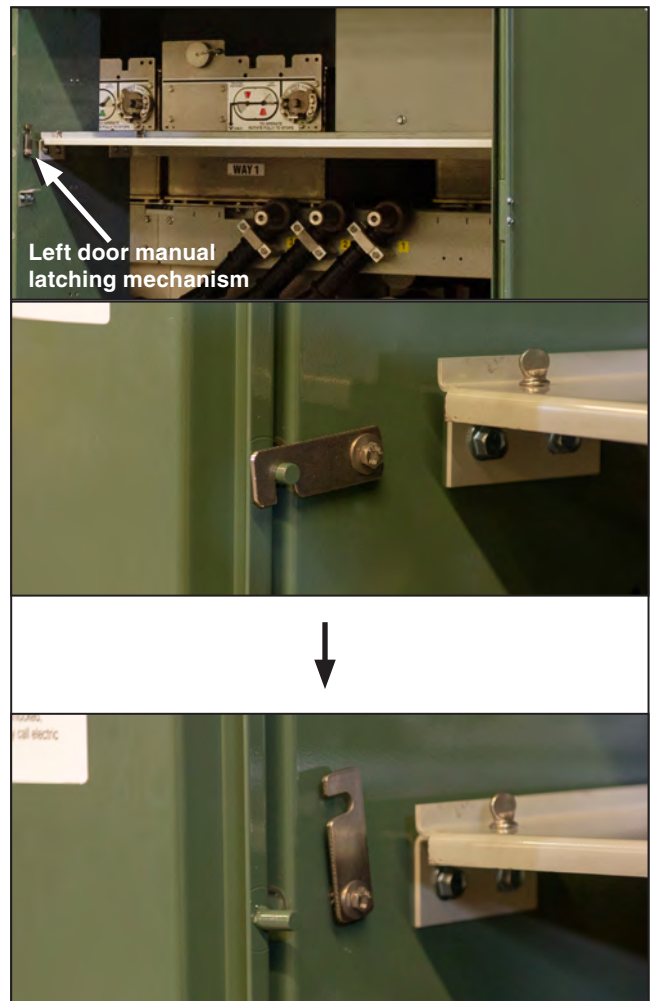

Figure 6. Disengaging the left door manual latching mechanism.
- STEP 3.** Disengage the left door manual latching mechanism to open the door. See Figure 6. Then, repeat Step 2 for the left door to latch it open.